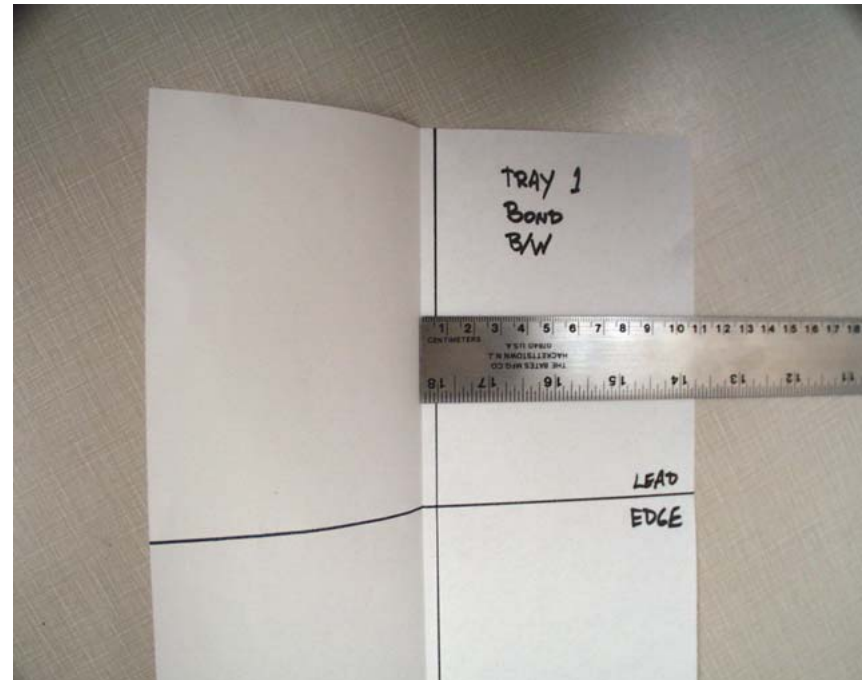

Figure 2 Measuring the distance to move the image
8. Measure and record the direction and distance the image need to be moved to align them with the folds. (Figure 2)